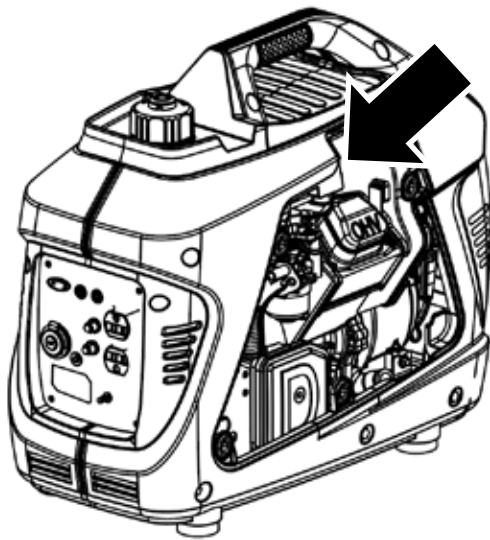

Figure 17: Locate spark plug
3. Remove the engine service panel by unlocking knob and locate spark plug boot at top of engine (see Figure 17).